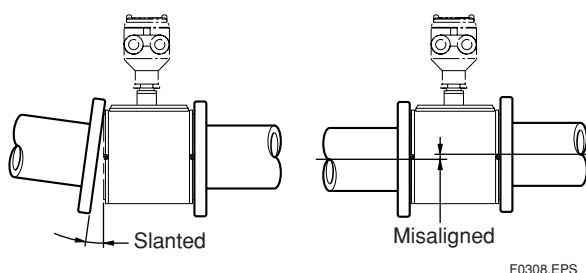

Figure 3.2.2 Slanted and Misaligned Flowmeter Piping
- (1) Correct any misaligned or slanted piping, and any gaps that may exist between mounting flanges before installing the flowmeter (refer to Figure 3.2.2).